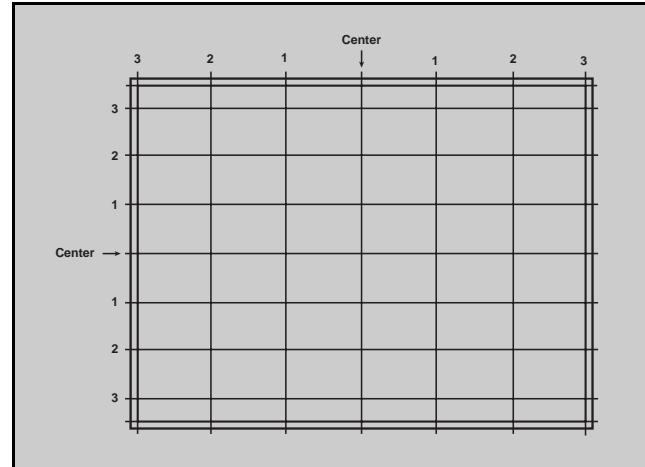

Figure 53. Convergence adjustment grid
**Create a Convergence Alignment Template** by drawing a pattern, as in Figure 53, in the actual dimensions on transparent film or tracing paper. Start with the Horizontal and Vertical Center Axis and work outwards until the pattern is complete. Pay attention to the actual dimensions of the pattern.